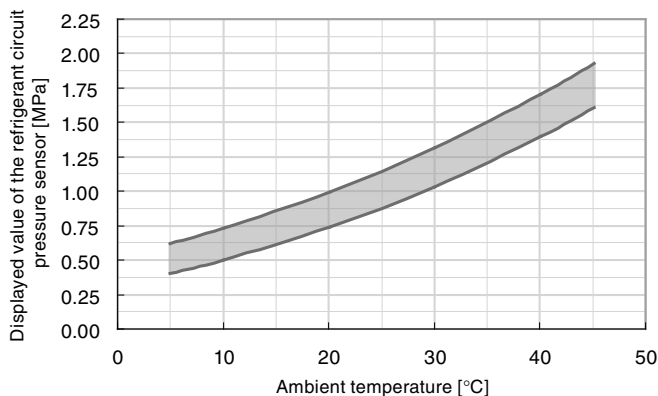

Fig. 4-57 Ambient temperature and refrigerant circuit pressure
- (1) Leave the Thermo-Chiller not operating for 24 hours to make the ambient temperature and the temperature inside the Thermo-Chiller the same.
- (2) Check the ambient temperature.
- (3) Check “PL: Refrigerant circuit pressure on the low pressure side” value in the “Check Monitor Menu”.
- (4) Check if the value at the cross point of the ambient temperature and the “PL: Refrigerant circuit pressure on the low pressure side” value is within the range (the shaded part) in Fig. 4-57. If the cross point is within the range, it means that the pressure sensor is operating correctly.